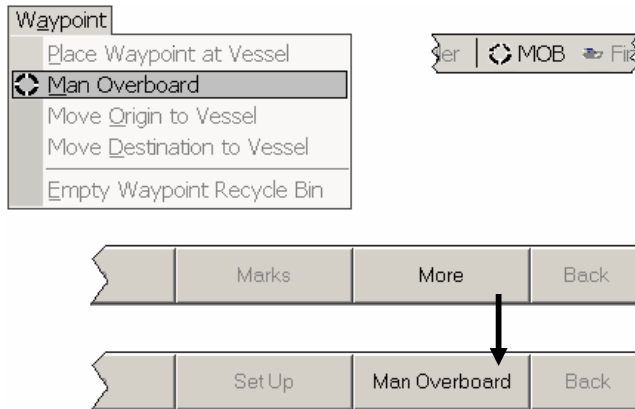

**Figure 4-17. Placing A Waypoint At The Cursor's Current Position**
1. As shown in Figure 4-17, click **Marks/Wpt at Cursor** on the function bar (this function cannot be accessed from the Waypoints drop-down menu).